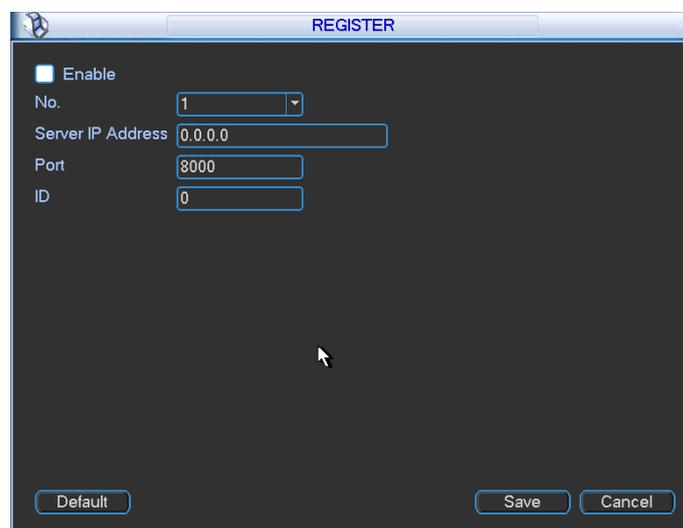

Figure 4-54
1) The setup interface is shown as in Figure 4-54.
3) Now you can add device. Please do not input default port number such as the TCP port in the mapping port number. The device ID here shall be the same with the ID you input in Figure 4-54. Click Add button to complete the setup.